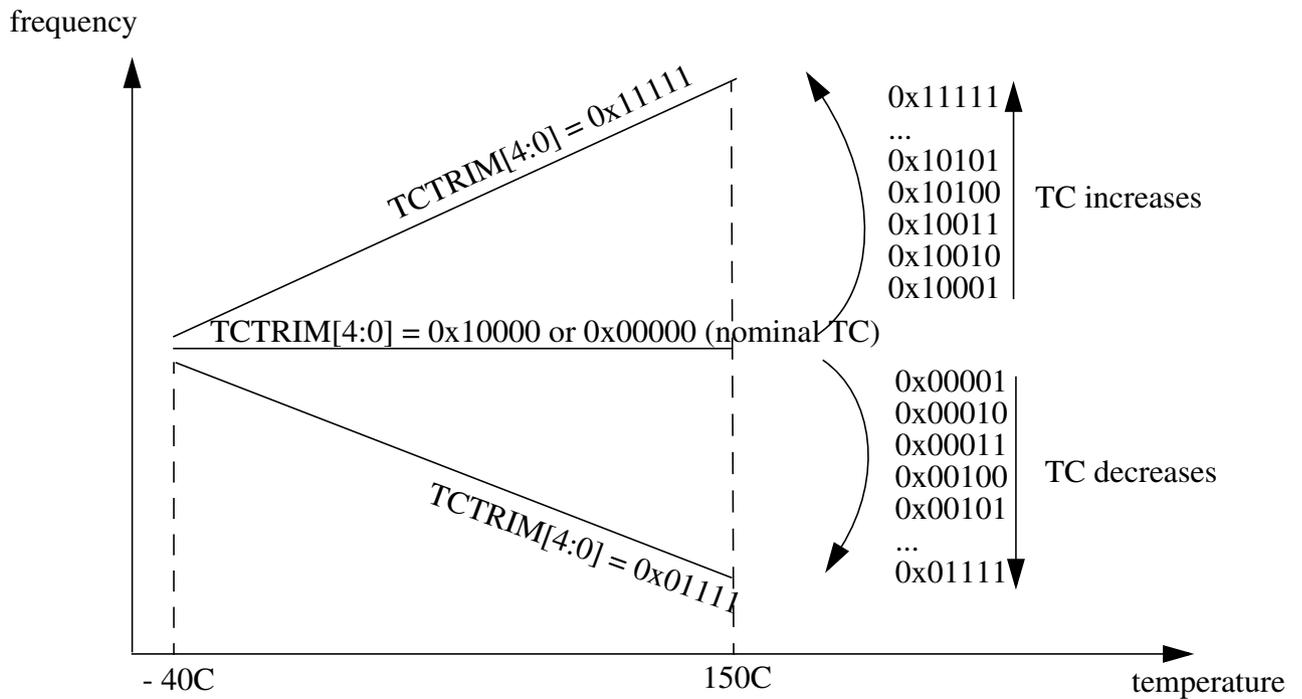

Figure 4-29. Influence of TCTRIM[4:0] on the Temperature Coefficient
15-11 TCTRIM[4:0]	<p>IRC1M temperature coefficient Trim Bits</p> <p>Trim bits for the Temperature Coefficient (TC) of the IRC1M frequency. Table 4-26 shows the influence of the bits TCTRIM[4:0] on the relationship between frequency and temperature. Figure 4-29 shows an approximate TC variation, relative to the nominal TC of the IRC1M (i.e. for TCTRIM[4:0]=0x00000 or 0x10000).</p>